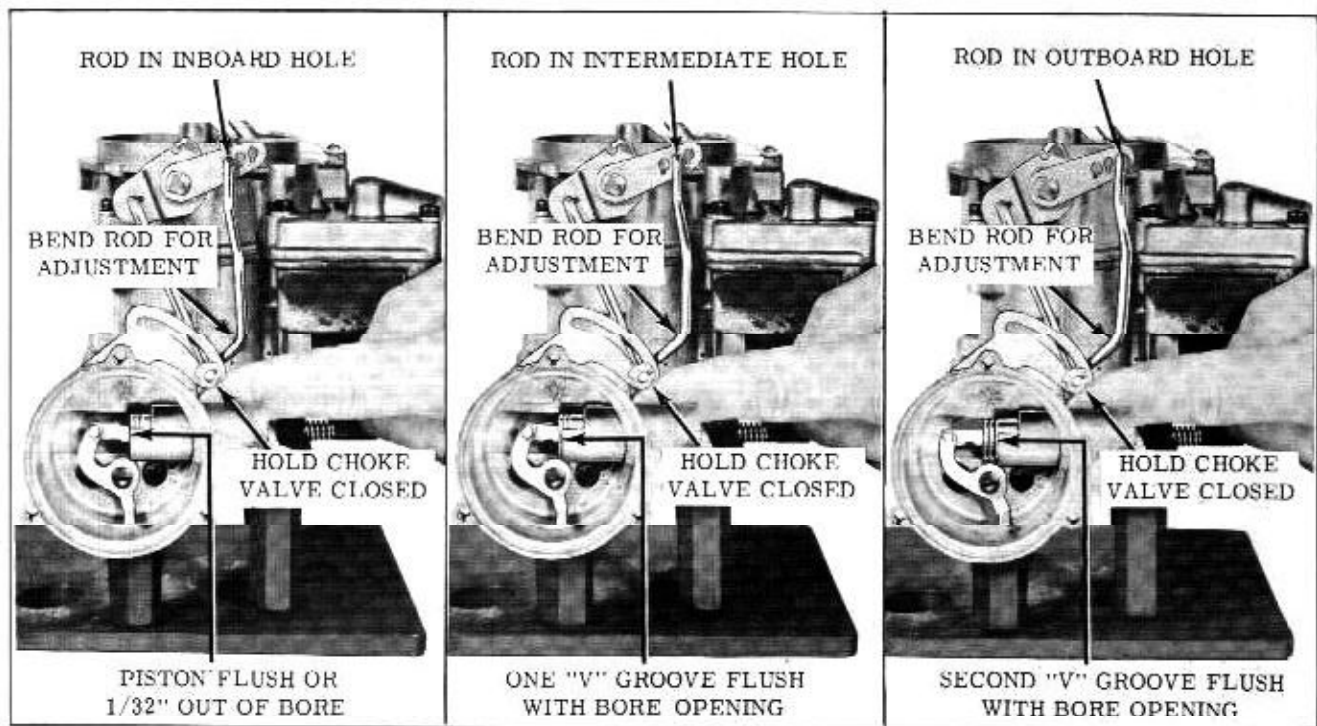

Fig. 8-112 Intermediate Choke Adjustment
1. Adjust the intermediate choke rod as outlined in Fig. 8-112.